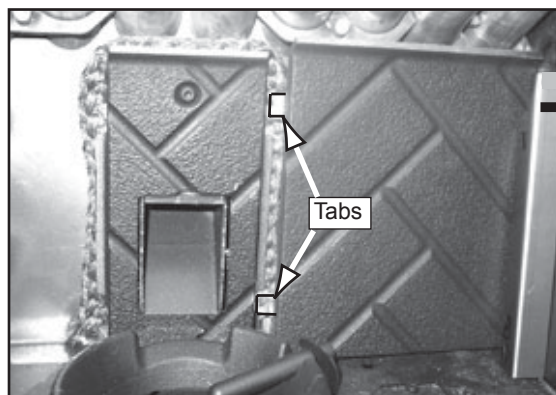

Figure 20.4
1. Place right brick in behind the right bracket, and then slide to the left so the tabs are behind the center brick. **Figure 20.4.**